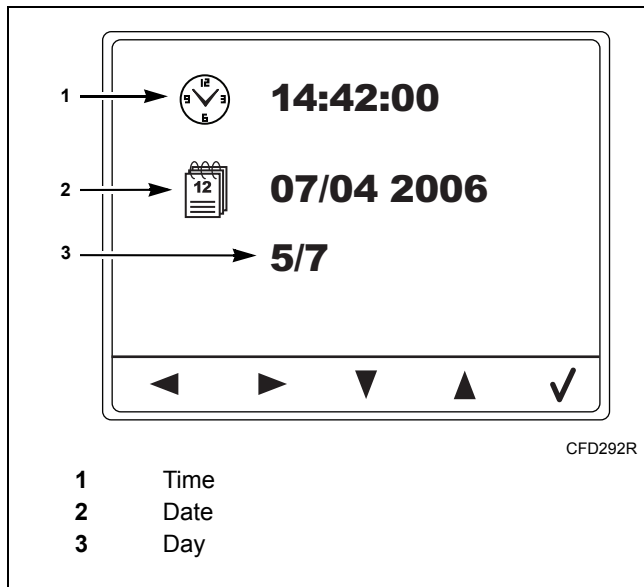

Figure 64
2. Confirm by pressing the keypad below the Check icon. Refer to *Figure 64*.